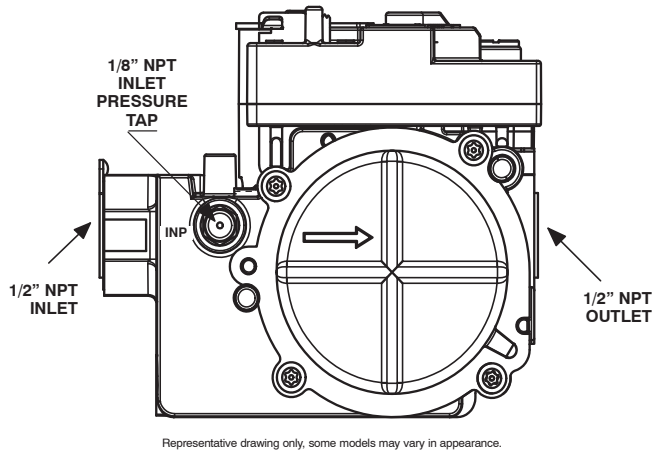

Fig. 13 – Automatic Gas Valve (Two-Stage) with Tower Pressure Ports A170132
Refer to Fig. 12 and Fig. 13.
1. Remove caps that conceal adjustment screws for high heat and low heat gas-valve regulators (see Fig. 12 and Fig. 13)